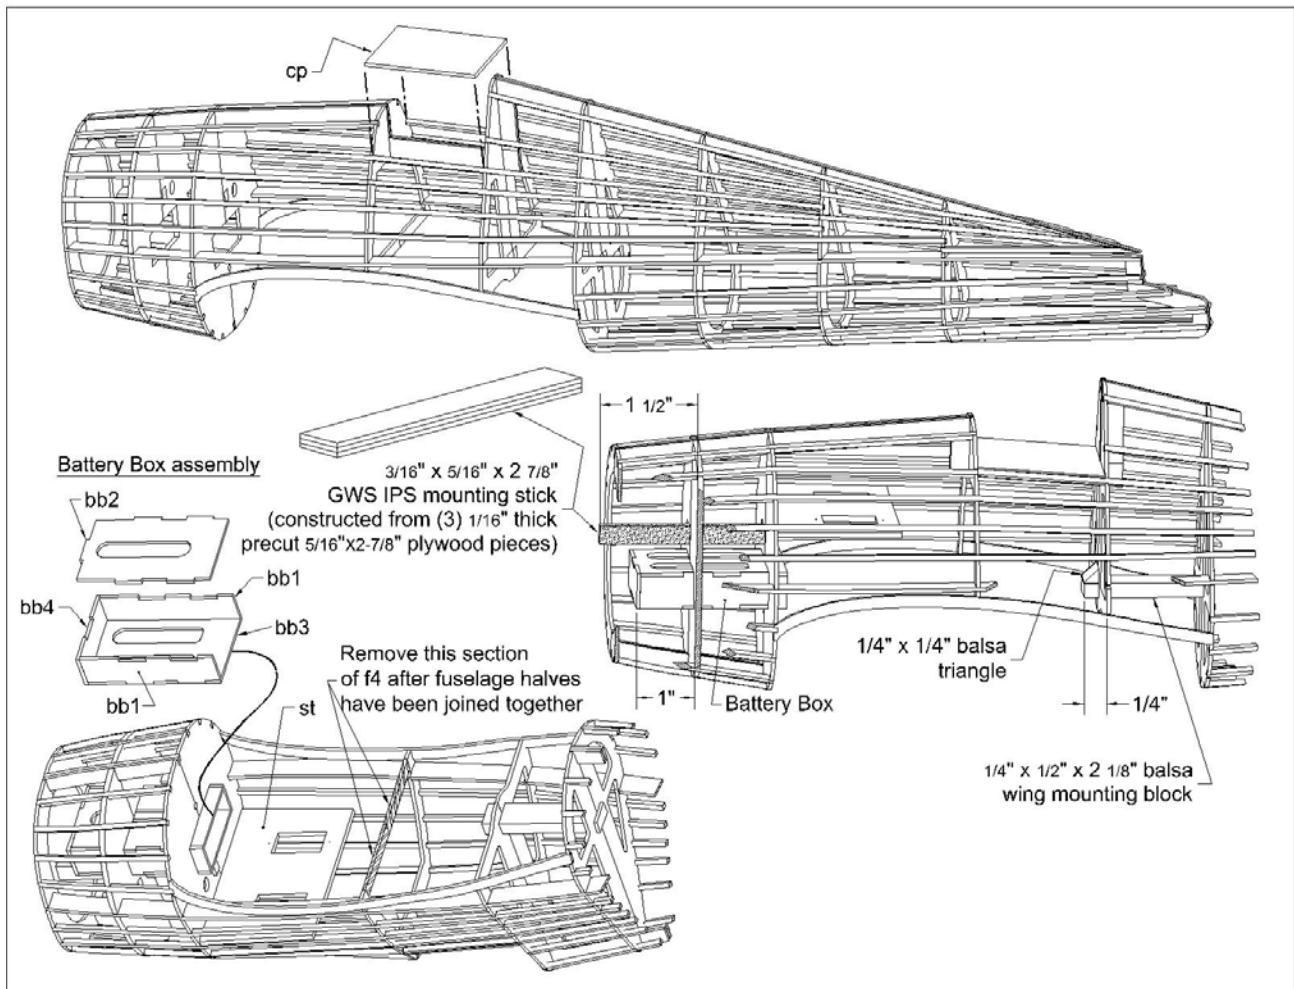

Figure 3
- ❑ Install the cockpit floor **cp** by gluing it to **fs2a**, **f4**, **f5** and the 3/32" SQ balsa fuselage stringers. Refer to Figure 3 for **cp**'s location.
- ❑ Install the servo tray **st** by gluing it to **f3/f3a** and the 3/32" SQ balsa fuselage stringers. Refer to Figure 3 for **st**'s location.
- ❑ Build the battery box using the laser cut balsa parts **bb1** through **bb4** per Figure 3. When the battery box is complete, glue it to the fuselage formers **f2/f2a** and **f3/f3a** per dimension shown in Figure 3.
- ❑ Glue the 1/4"x1/2" balsa wing mounting block to the fuselage formers **f5** and **f6**. Glue the 1/4" balsa triangle wing mounting support gusset to the 1/4"x1/2" balsa wing mounting block and fuselage former **f5**. This is illustrated in Figure 3.
- ❑ Laminate the (3) 1/16" thick precut 5/16"x2-7/8" plywood pieces to construct the GWS IPS mounting stick. Glue the laminated GWS IPS mounting stick to formers **f2/f2a** and **f3/f3a**. This is illustrated in Figure 3.
- ❑ Remove the section of former **f4** shown in Figure 3.